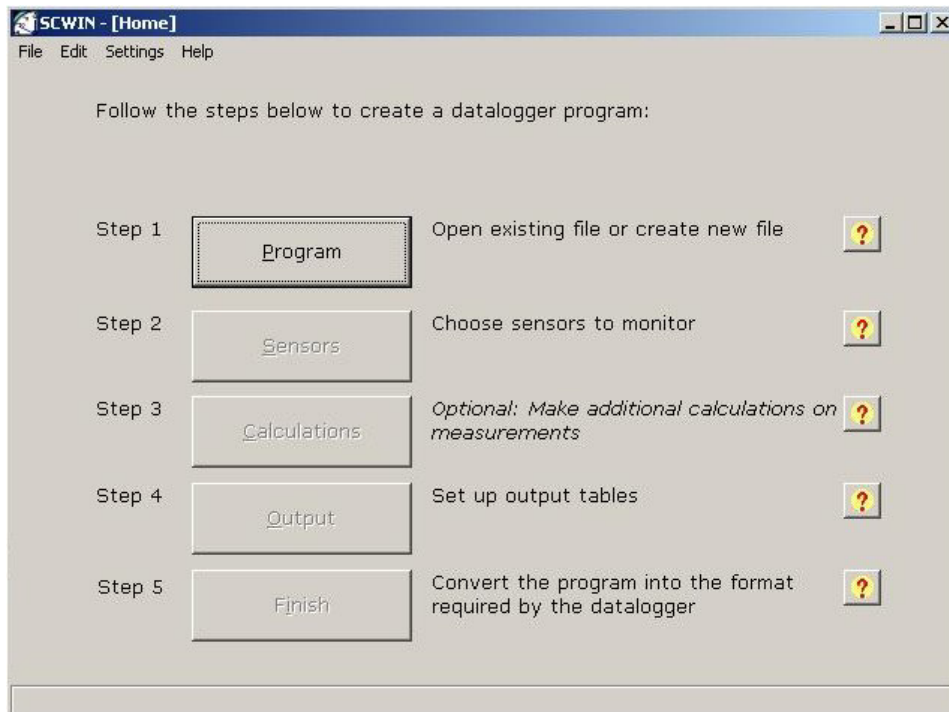
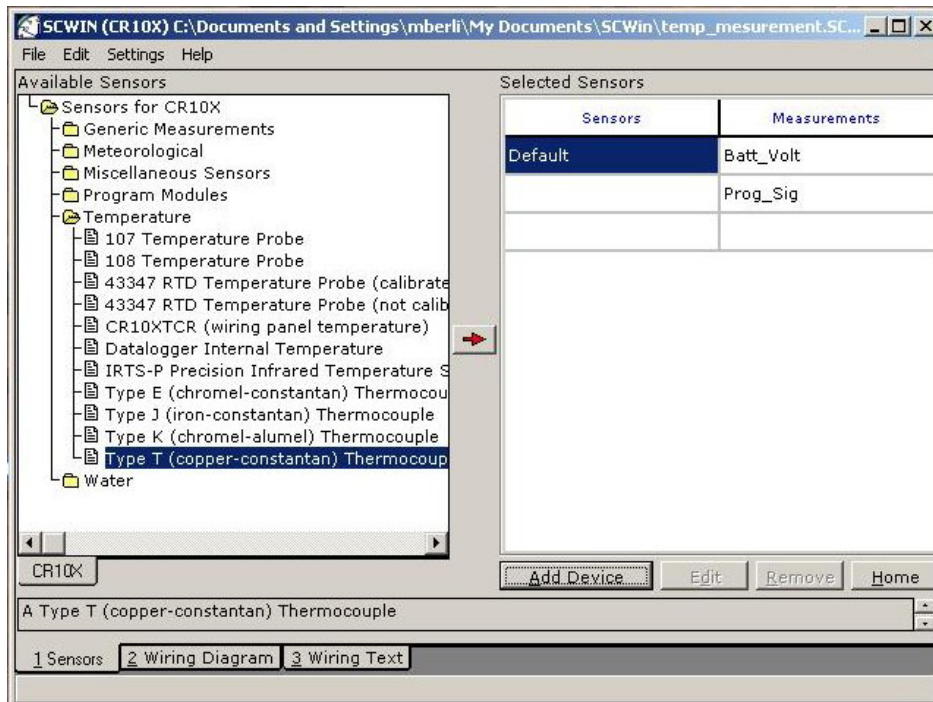
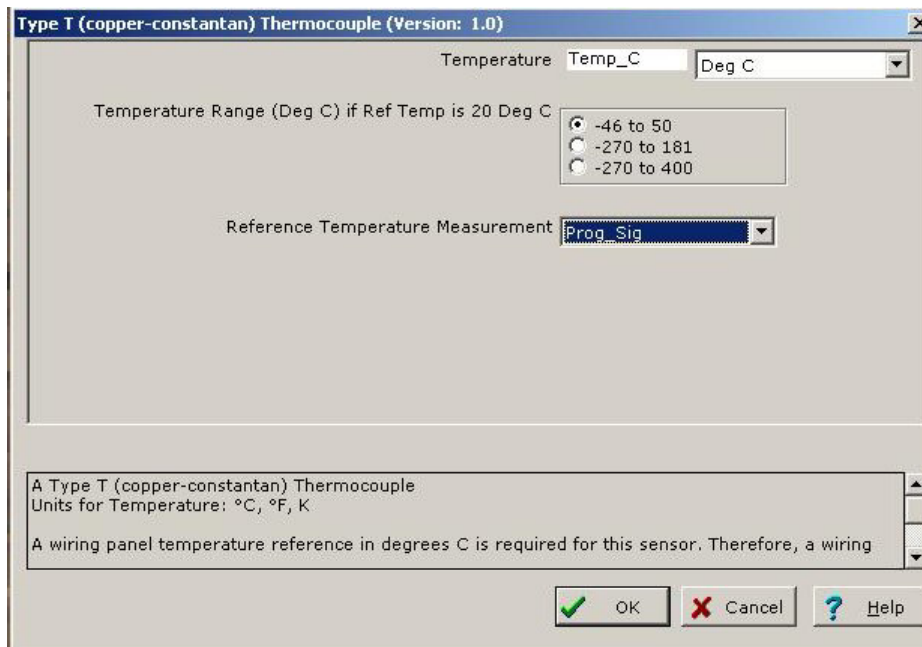
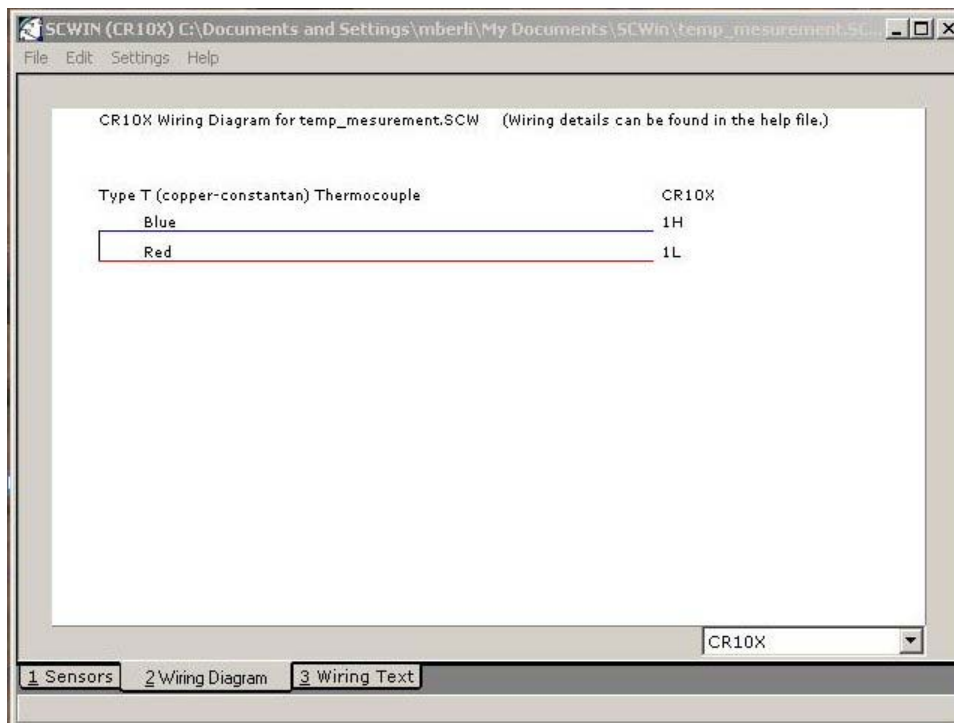

Fig. 1 Main menu of the “SCWIN” program
Fig. 3 Defining thermocouple type.
Fig. 4 Defining temperature range and reference temperature.
Fig. 5 Wiring diagram for a single T-type thermocouple.
1. Start the program “SCWIN” by double clicking the corresponding icon on the computer desktop. The following Main Menu (Fig. 1) should appear:
Give a file name for example “temp_measurement” and press “Open”. On the next window (we want to make a new file) press “Yes” to create the new file. Then, choose the appropriate data logger “CR10X” and press “OK”. In the next window leave the scanning time at 10 s and press “OK”. Now you will be returned to the main menu (Fig. 1) and ALL the buttons will be active.
- Now we wish to define the type of sensor we will be taking measurements with. Press the “sensors” button and, in the window popping up, choose (under “Available Sensors”) <Sensors for CR10X/Temperature/> T-type (copper constantan) thermocouple (see Fig. 3). Then push the red arrow and the next window (Fig. 4) shows up. Choose temperature range corresponding to “-46 to 50 C” Deg C and “Prog_Sig” from Reference Temperature Measurement, then press “OK” and the window from Fig. 3 will show up again.
4. Press the “Wiring Diagram” button at the bottom of the window as illustrated in Fig. 3 and a window depicting the wiring diagram of the data logger for a single T-type thermocouple shows up. Connect the blue wire of the thermocouple with the port 1H and the red wire of the thermocouple with the port 1L of the CR10X data logger (you will need a small flathead screw driver to tighten the thermocouple wire down). Press the
“Sensors” button in the window of Fig. 5 and the “home” button in the window of Fig. 3. You should be back now to the main menu (Fig. 1).